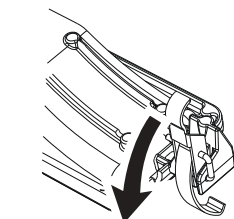

Fig. 51
5. Remove the combustion control unit from the boiler by releasing the over-centre catches that secure it to the heat exchanger (Fig. 51).